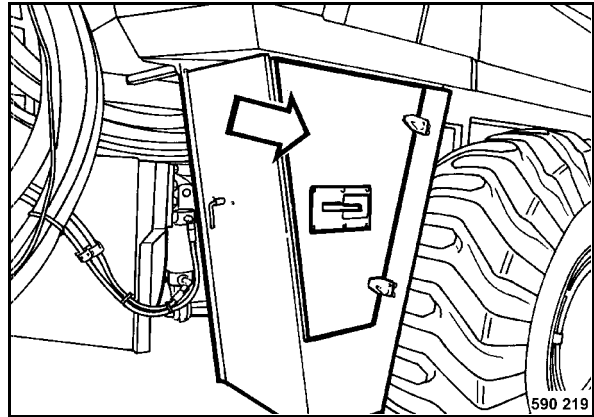

Fig. 11
- Open the maintenance door to the battery compartment (Fig. 11).